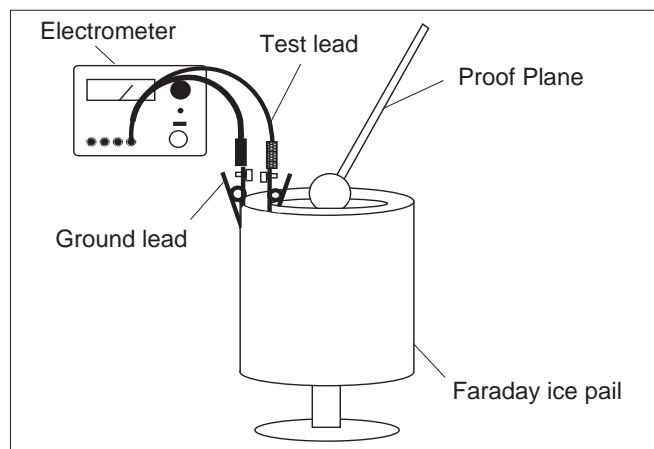

Figure 4 Using a Faraday Ice Pail
Under most conditions, the best way to measure charge is by induction, using a proof plane and a Faraday ice pail such as those included with PASCO's Demonstration Electrostatics System. The proof plane is simply a small conductive disk on an insulating handle. You can make your own ice pail by mounting a conductive cylinder on an insulating support, and placing a larger conductive cylinder around it as a shield. Connect the test lead of the electrometer probe to the inside cylinder, and connect the ground lead to the outside cylinder (see Figure 4).
- ① Turn on the Electrometer and zero the meter. Clip the test lead of the probe to the inside cylinder of your ice pail and the ground lead to the outside cylinder (see Figure 4).
- ② Use a DC power supply or a statically charged object to charge your proof plane.
- ③ Place the proof plane inside the inner cylinder of the ice pail and adjust the FUNCTION switch to get a meter reading near full scale. (For convenience, you may want to touch the proof plane to the inside of the ice pail and then remove the proof plane. The effect on the voltage reading should be negligible.) Record the voltage as V_e . Do **not** discharge the Electrometer.
- ④ Take a capacitor of known capacitance, C_k . Ground the leads of the capacitor to be sure it is fully discharged, then connect the capacitor between the inner and outer cylinder of the ice pail. With the proof plane still inside the ice pail, record the meter reading as V_k .
- ⑤ The capacitance of the Electrometer, C_e , can now be calculated as: